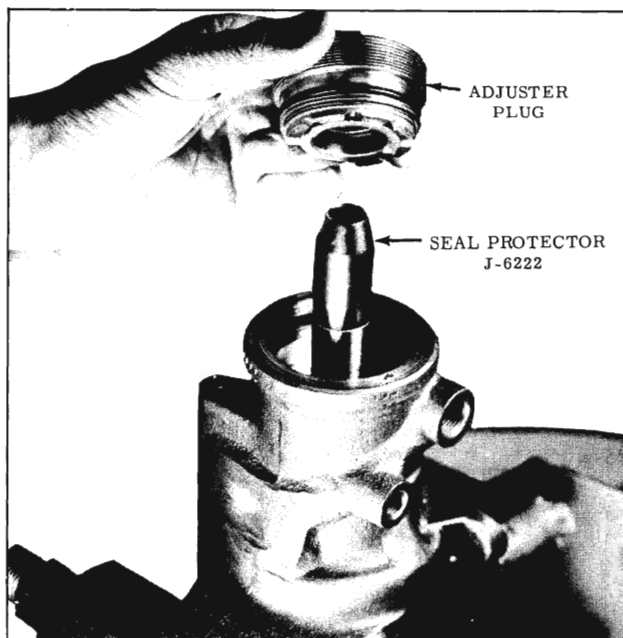

Fig. 4-68 Installing Adjuster Plug
3. Lubricate a new adjuster plug "O" ring with petro-latum and install in groove on adjuster plug. Place Seal Protector J-6222 over lower shaft, then install the adjuster plug assembly in the housing until it seats against the valve body. (Fig. 4-68) Remove Seal Protector.